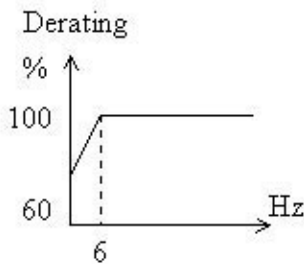

FIG. 1
- b.        When motor runs with low speed, the capacity to dissipate heat is not as good as motor running with rated frequency. The level to energize the electronic thermal relay should be adjusted accordingly. (Please refer to Fig. 4 Curve (1) should be adjusted to curve (2)) To protect the motor, select appropriate settings of Fn05 and Fn69 according to the specifications of motor. (refer to Fig. 1, 2, 3)